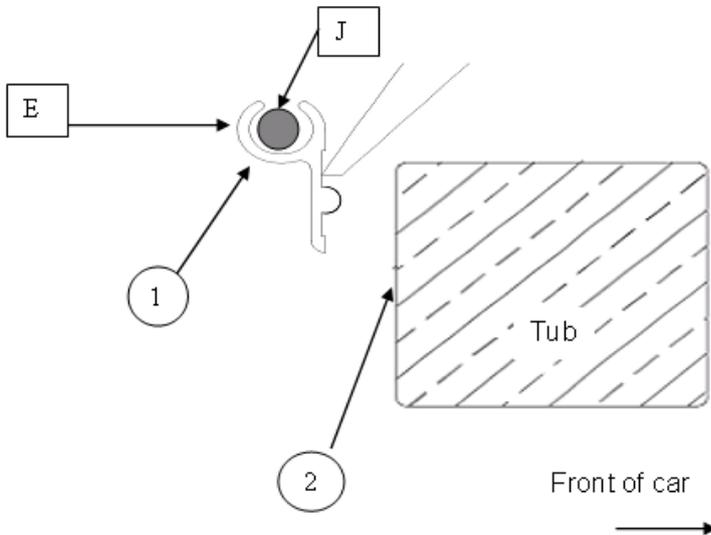

Figure 1
2. Rest the aluminum rope track on the side rails, and push forward. Figure 1 to the vertical face of the tub.